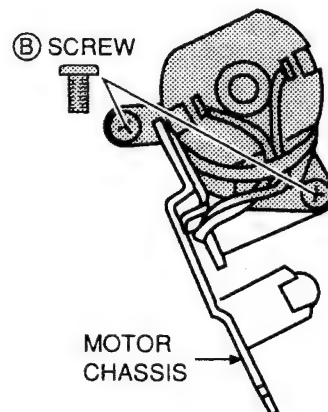

Fig. 3-27
4. Remove the two (B) screws which retain the LOADING MOTOR and replace it with a new one as shown in Fig. 3-27.